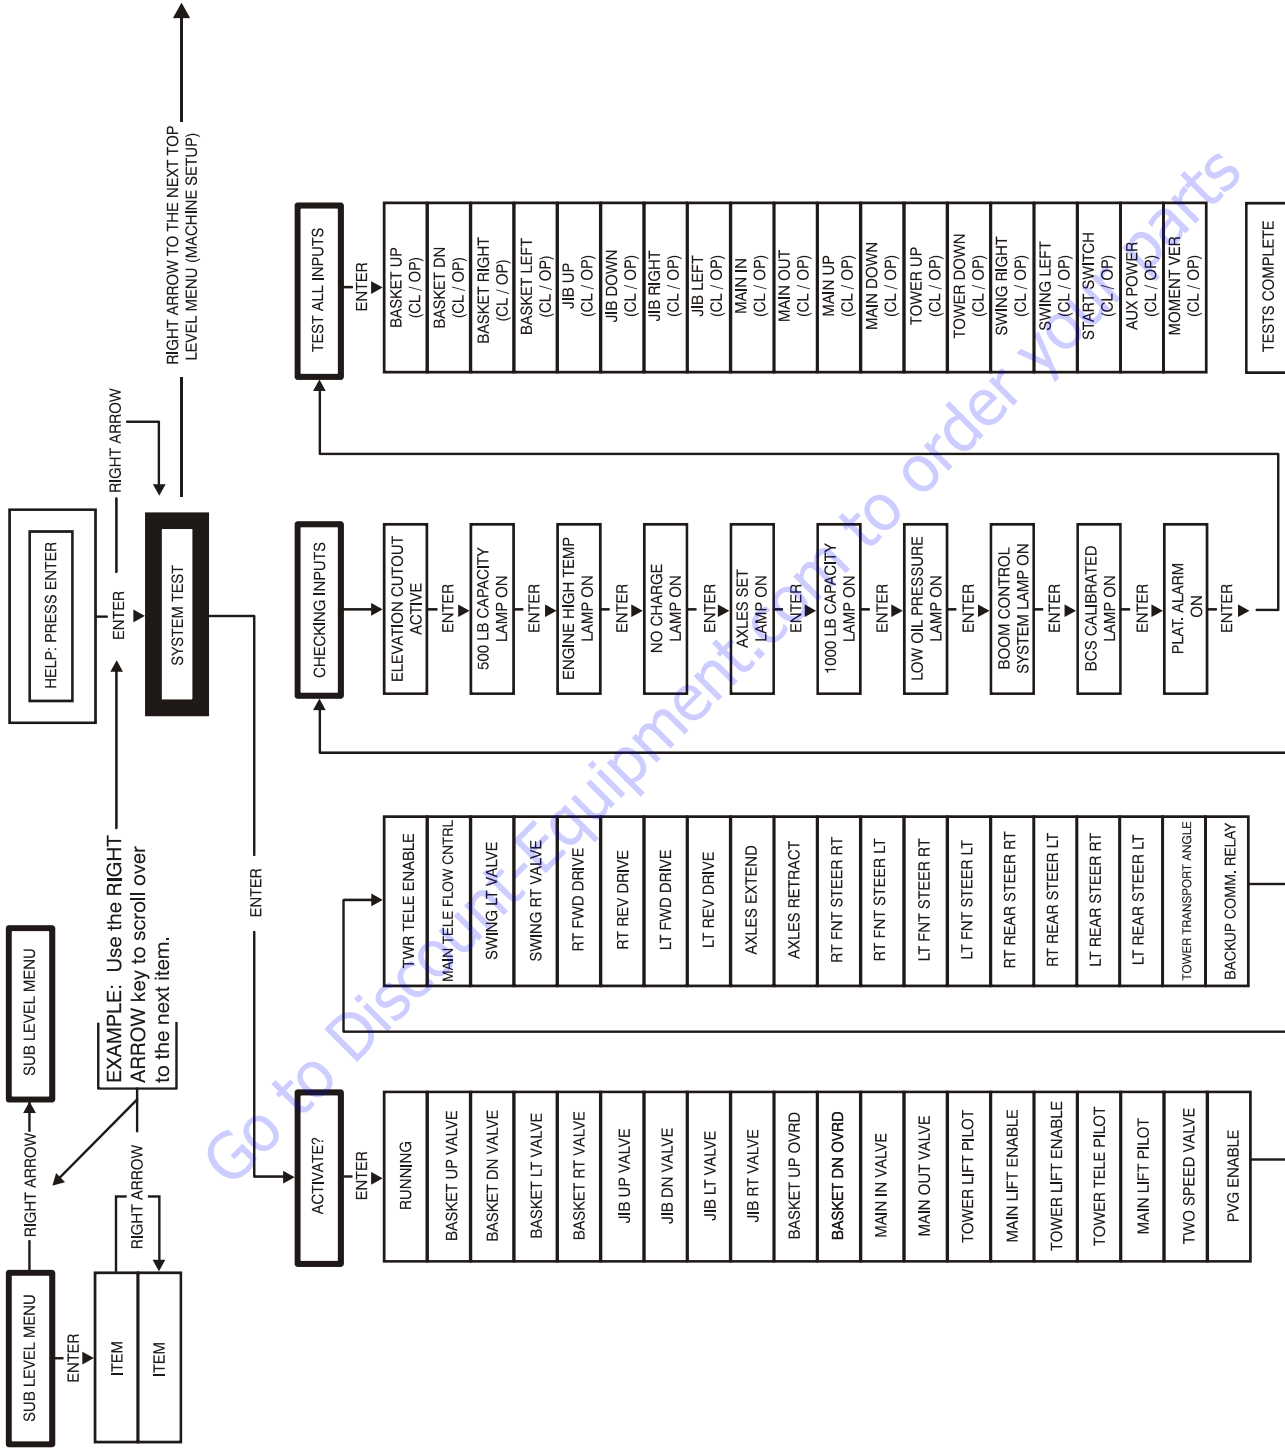

Figure 6-15. System Test Flow Chart - Ground Station Tests
6. Follow the flow path in Figure 6-15., System Test Flow Chart - Ground Station Tests and go through the component tests. Hit the ESC key during any part of the test to return to the main menu without completing all tests or wait until all tests are complete. During the TEST ALL INPUTS sequence, the analyzer allows control switches to be operated and shows if they are closed (CL) or open (OP).